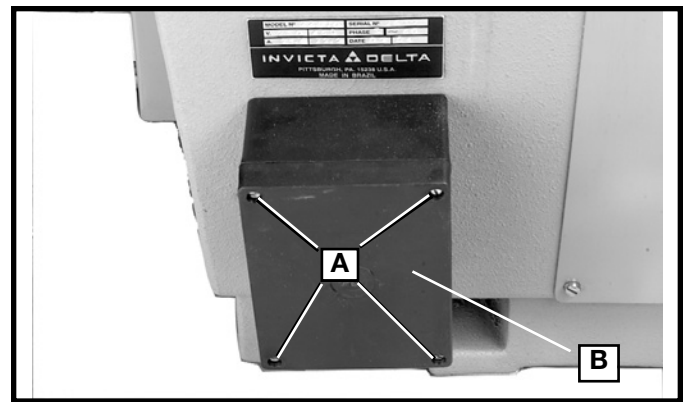

Fig. 4
1. Remove the four screws, one of which is shown at (A) Fig. 4, and remove cover (B).
2. Insert power line through entrance hole (E) and connect the three power lines to terminals L1, L2 and L3 (shown at C). The green ground wire should be connected to the ground terminal (J).
3. Replace cover (B) Fig. 4.